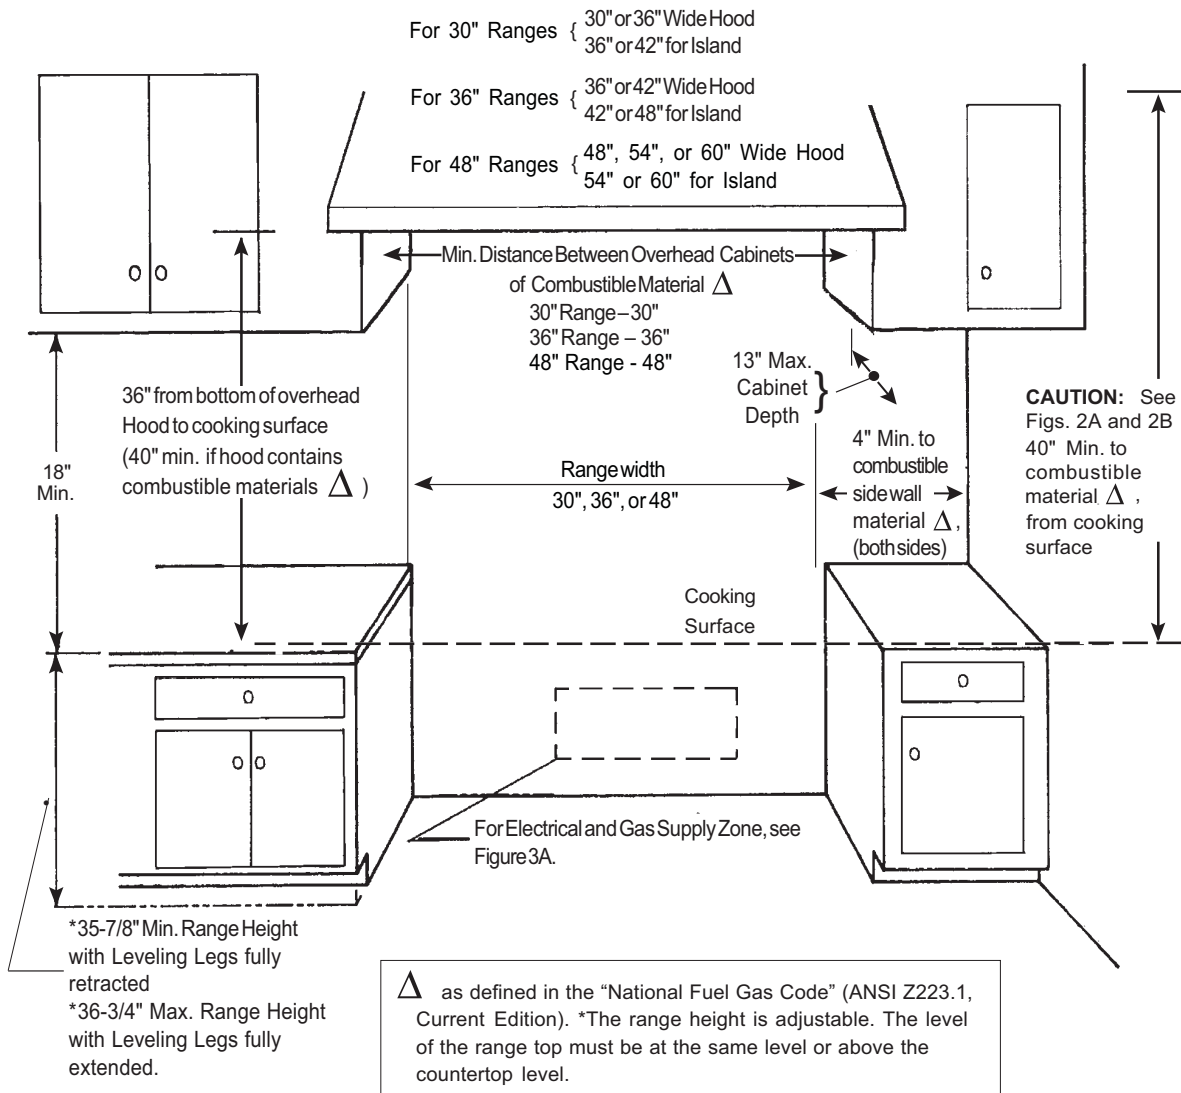

Figure 1: Cabinet Clearances
- For best smoke elimination, the lower edge of the hood should be installed 36" above the range cooking surface. (See Figure 1).
- * For high output gas ranges (60,000 BTU or greater), the minimum of one (1) CFM of ventilation per 100 BTU is recommended. If the range has a grill or griddle, add 200 CFM to the estimated blower capacity. Additional blower capacity may be required for longer duct runs.
1. The range is a free standing unit. If the unit is to be placed adjacent to cabinets, the clearances shown in Figure 1 are required. The same clearances apply to island installations, except for the overhead cabinets, which must have a space wide enough to accept the flared island hood, as indicated in Figure 1.